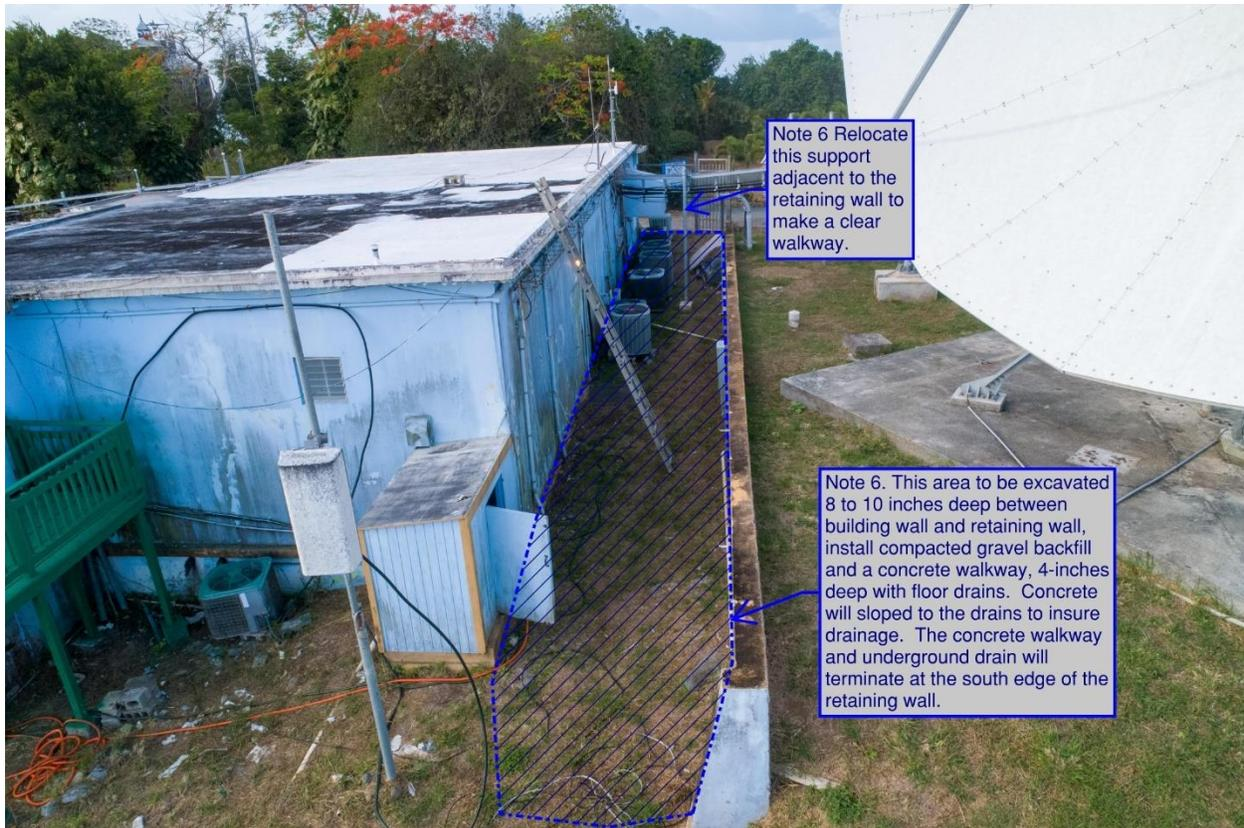

Figure 3 Access Walkway
**Note 6.** Drainage and Access walkway. Provide a concrete drainage and walkway for access area. See Figure 3.